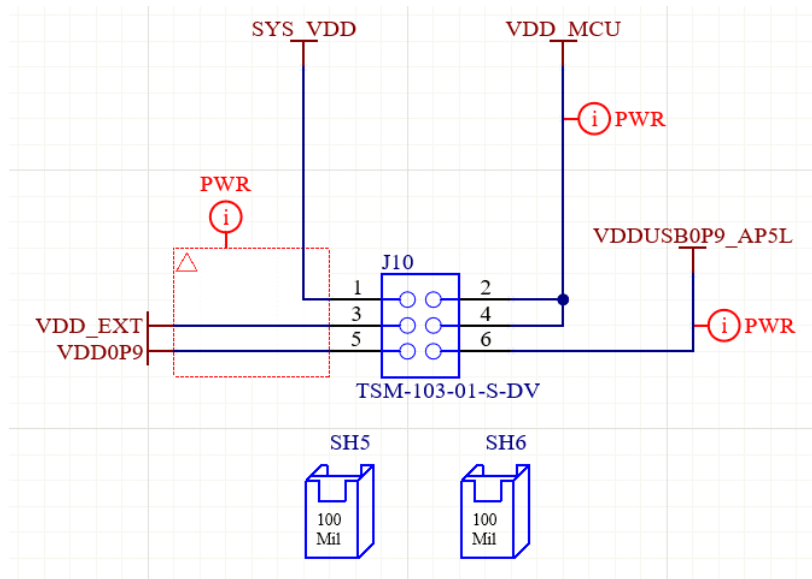

**Figure 12. J6 External Supply Header**
- Provide externally-supplied power via J6 in Figure 12.